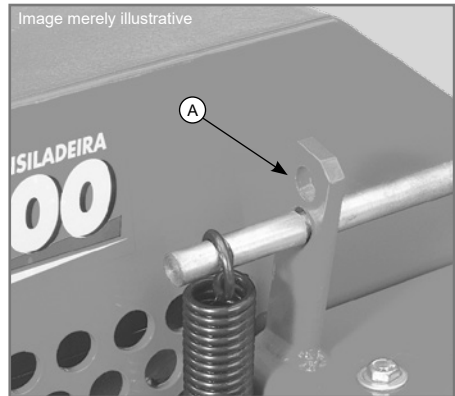

Figure 12
- ✓ If pressure on the springs decrease, change the position of the pin to the upper hole (A), as shown in Figure 12.